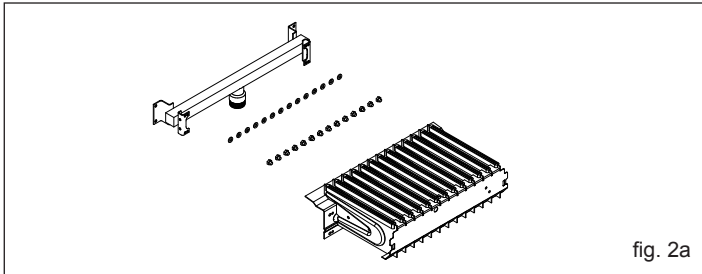

fig. 2a
- use a box spanner or a wrench to remove the nozzles and the washers. Replace with those in the kit (fig. 2a).